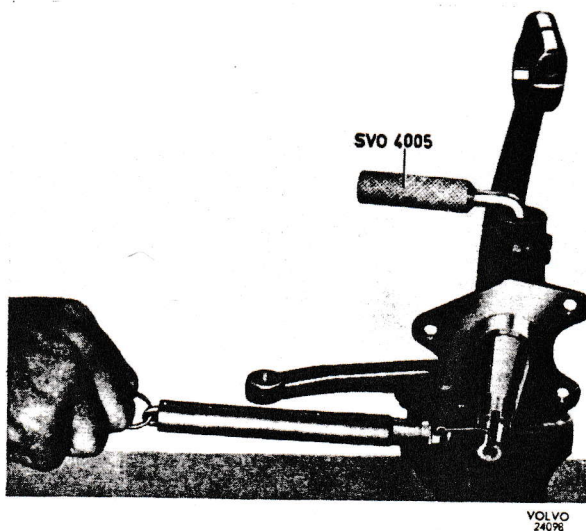

Fig. 20. Measuring friction torque
3. Place the stub axle, thrust bearing and adjusting shims in position and place the centring mandrel SVO 4005 in the upper bushing. Change the shims until the bearing take-up corresponds to a friction torque of 5—65 kg/cm (4.33—56.3 lb.in.) when turning the spindle. A spring balance attached to the split pin hole of the spindle should then give a reading 0.3—4.3 kg (0.66—9.46 lb.) when pulled at right-angles to the spindle, see Fig. 20. Then drive in the king pin ensuring that it comes in the correct position. Fit the stop key. Check that the steering knuckle turns easily. Fit the sealing washers by placing them in position with the dished side outwards and then knocking them flat with a hammer and drift.